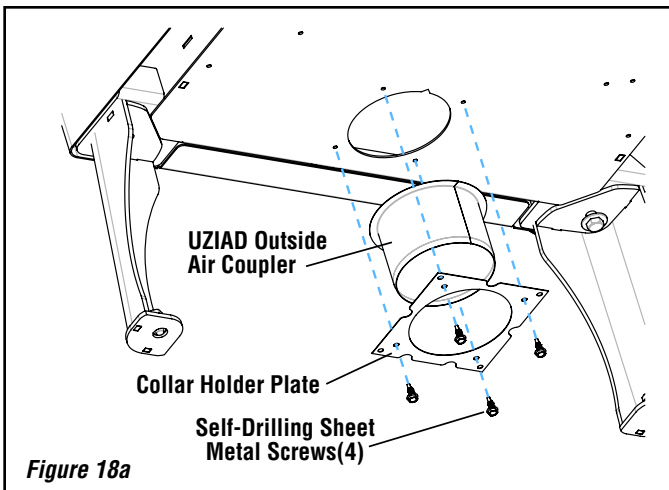

Figure 18a
Collar with Collar Holder: Center the 4" dia. collar on the air intake opening and then secure with the collar holder, using the four (4) 5/8" Tek Screws provided, lining the plate up with the capture holes on the unit. In some instances the capture holes may be absent; the tek screws should then be used to start the holes directly (**Figure 18a**).